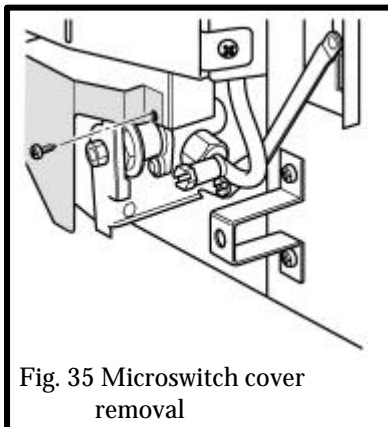

Fig. 35 Microswitch cover removal
13.1 To remove the ignition microswitch (Figures 35 & 36)
13.1.2 Detach the microswitch cover by removing one screw and pulling clear of the location lug (see figure 35).
13.2 To remove the gas shut-off microswitch (Figures 35, 36 & 37)
13.2.2 Detach the microswitch cover by removing one screw and pulling clear of the location lug (see figure 35).